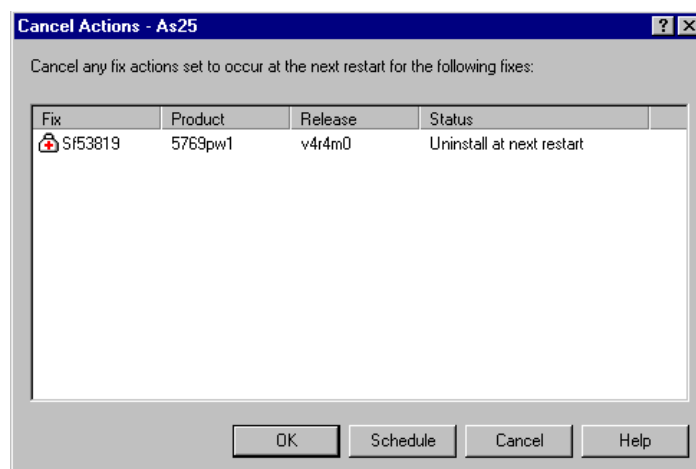

Figure 106. Cancel Actions window
5. Right-click on the fix, select **Advanced**, and then click on **Cancel Actions**. The Cancel Actions window will present information similar to what is shown in Figure 106.